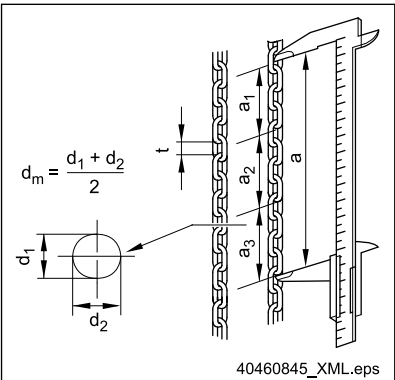

Fig. 60
- on 11 chain links ⇒ Fig. 60, Page 87.